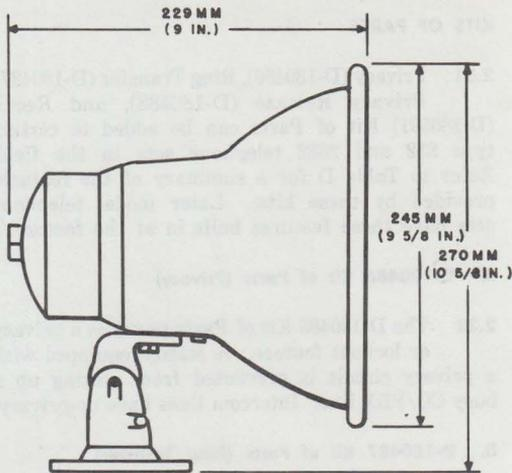

Fig. 11—KS-21939L2 Loudspeaker
2.16 The KS-21939L2 loudspeaker (Fig. 11) is a horn-type speaker used for paging at indoor